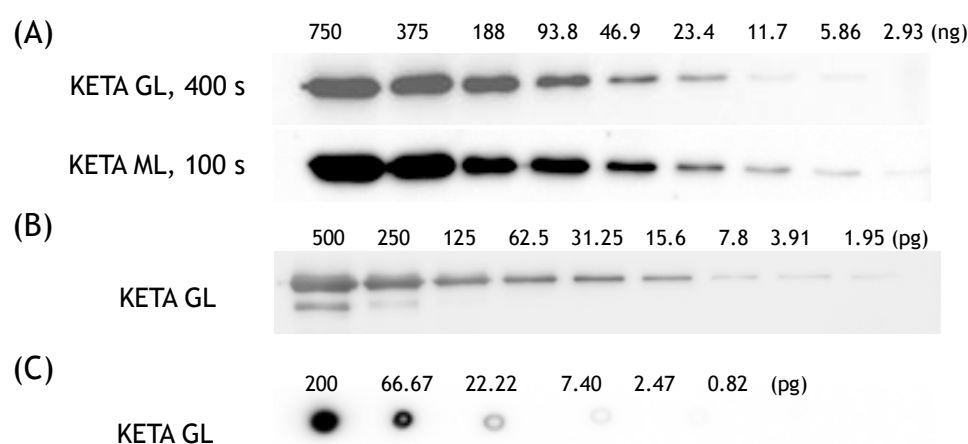

Figure 1. Chemiluminescent Detection by KETA GL imaging system.
Using of peltier cooled CCD in KETA GL and KETA GLX imaging systems is assumed having the ability of detecting the chemiluminescent samples. Detection ability had also been proved in this article (*fig.1*). Since KETA G series are not designed specifically for chemiluminescence observation, the ability of detection for the same sample was lower than multifunction imaging system, which is the KETA ML. As in *fig.1 (A)*, with the same sample detection, it took 4 times longer to capture the signal in KETA GL system. The detection limit was also one level lower than KETA ML system. Besides, the signal intensities of each band in KETA GL were all lower than those in KETA ML.